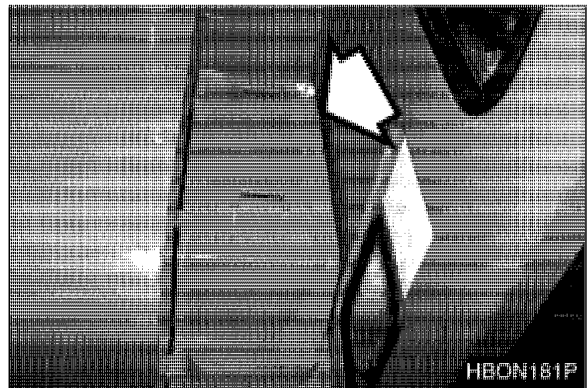

Figure 68
1. Remove cover (Figure 68) to gain access to swing reduction device.